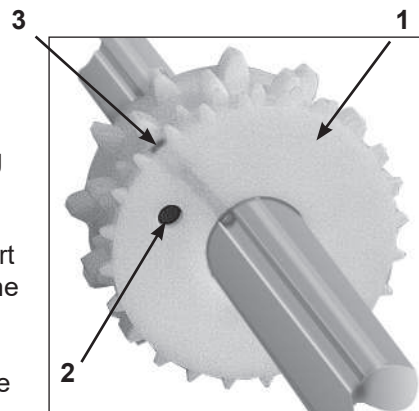

Fig 10
For sowing fine seeds the Vineyard Seeder is equipped as standard with a combined normal and fine seed "Elite" metering wheel (1). During grain sowing and other larger varieties of seed both the normal and fine seed metering wheels are coupled and both rotate. In order to convert the seed drill to sow fine seed insert the crank handle and rotate clockwise until the holes (2) of the fine seed wheel are visible (Fig 10).
**CAUTION** Care should be taken when tightening the grub screws on the fine seed wheel (Page 20, Fig 10/3). Adjust the grub screw until the movement of the metering wheel just stops, then tighten no more than 1/8 of a turn.